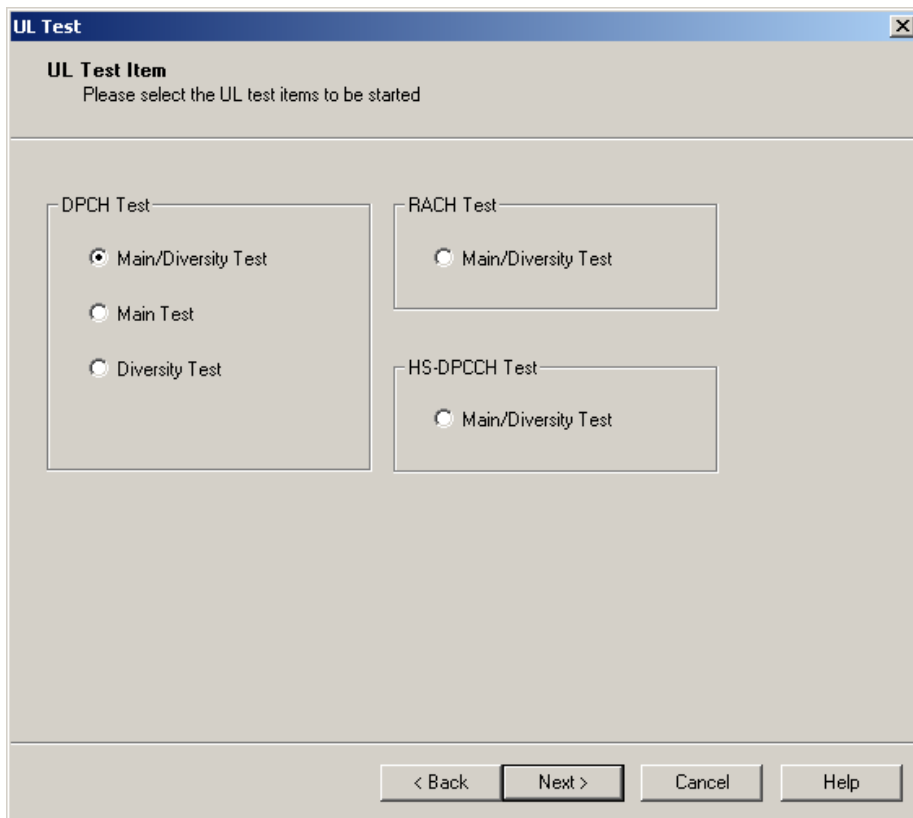

Figure 11-5 UL Test Item dialog box
The **UL Test Item** dialog box opens up as shown in Figure 11-5.
- 5) Click **Next** in the dialog box. The **UL Test Item** dialog box opens up as shown in Figure 11-5.